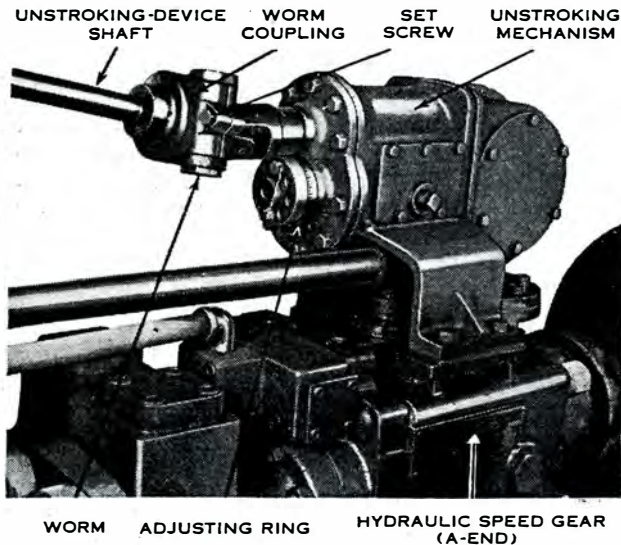

Figure 19. Unstroking mechanism.
- (1) Glycerin, grade A, USP, 60 parts by volume.
- (2) Distilled water, 40 parts by volume.
- (3) One ounce of sodium hydroxide (CP NaOH), sticks or pellets, to each 3 gallons of the mixture, or 1 pound of sodium hydroxide to 48 gallons of mixture.
d. **To adjust the unstroking device.** (1) **General.** To adjust the unstroking device, first check the withdrawal cut-off point to see that it automatically stops the rammer just before the rammer head contacts the stop pins. To do this, run the rammer, under power, part way forward onto the loading trough and then, controlling the speed, *slowly* withdraw it until the unstroking device stops the rearward movement. If adjustment is necessary, loosen the setscrew (fig. 19) on the worm coupling in the unstroking
(2) *Adjustment of the ram cut-off point.* This adjustment is made through the adjusting ring (fig. 19) on the rear end of the unstroking mechanism beneath the worm coupling. First, ram a dummy projectile into the chamber of the gun, seeing that it is properly seated. Next, move the rammer head into the chamber until it rests against the base of the projectile. At some convenient point make marks that